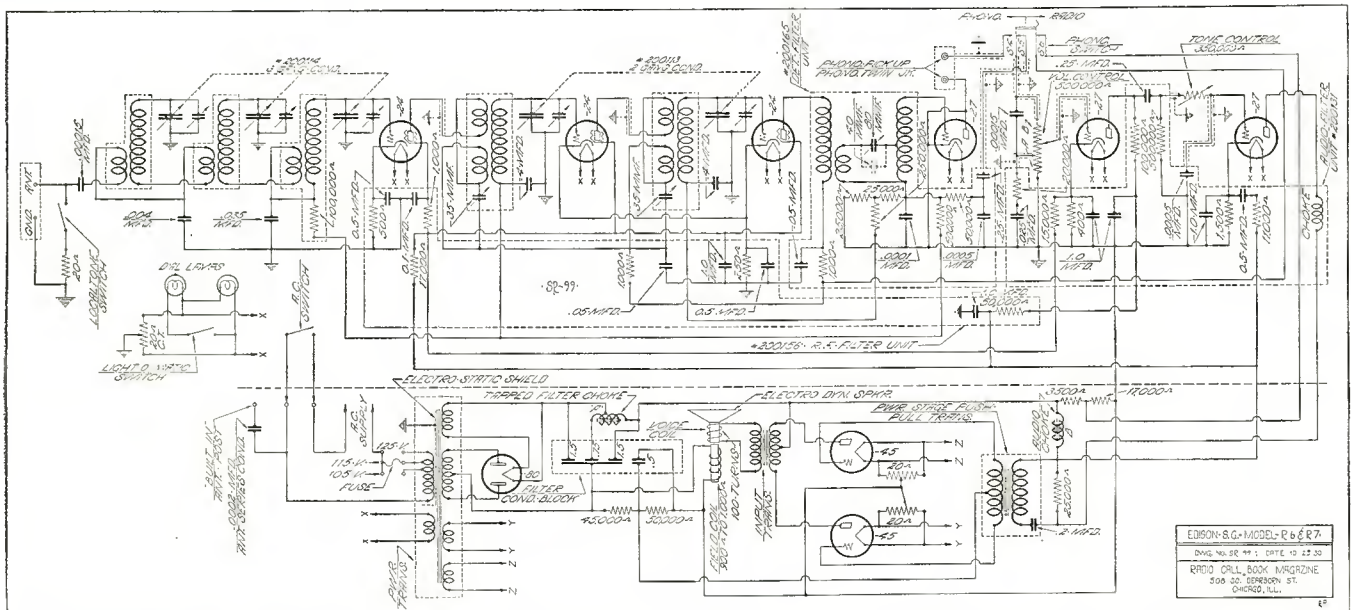

Fig. 2. The schematic diagram of the Edison models R6 and R7 including the power supply is shown in this diagram
**K** NOWN as the "micro-synchronous" model and using four stages of tuned r.f. with screen grid tubes, the Victor models R35, R39 and RE57 are illustrated schematically on this page in Fig. 2 with a table of tube operating values shown in the table in Fig. 1.